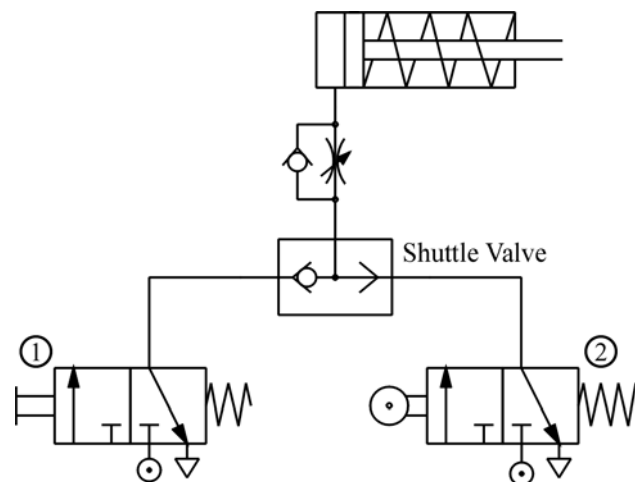

Fig. 29 Circuit diagram of an OR function circuit
The single acting cylinder in Fig. 29 can be operated by two different circuits. Examples include manual operation and relying on automatic circuit signals, that is, when either control valve ① or control valve ② is operated, the cylinder will work. Therefore, the circuit in Fig. 29 possesses the OR function. However, if the output of two 3/2 directional control valves are connected through the port of a triode, the air current from control valve ① will be released through the exhaust of control valve ②, and so the cylinder will not work. This problem can be solved by connecting a shuttle valve to the port of the triode.